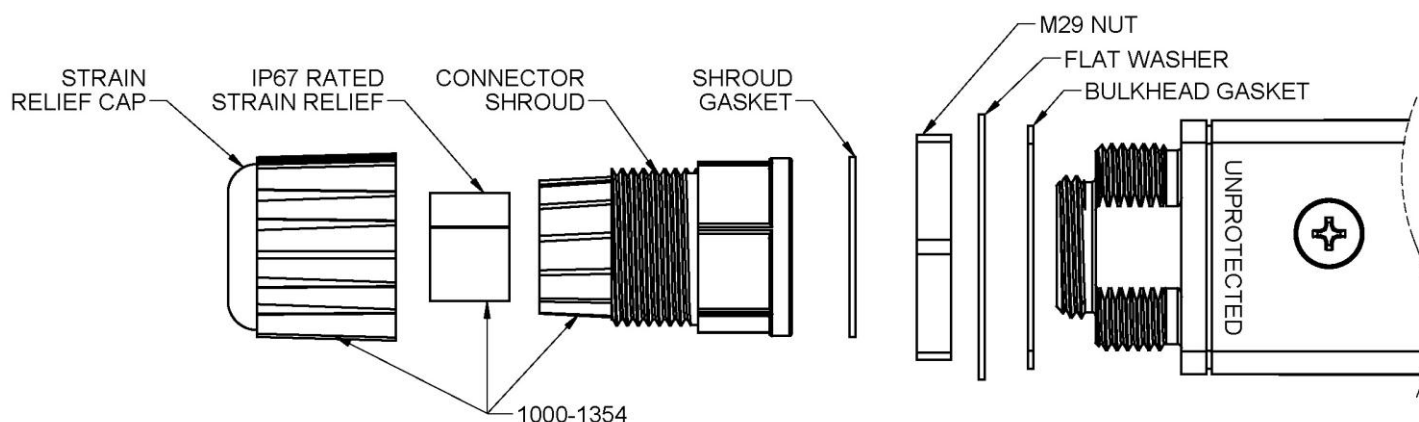

Figure 3. Installation Hardware Accessories (provided with unit)
- 5.3. Slide the Cat5e cable through the strain relief cap first. Then slide through the connector shroud. Install the IP67 rated strain relief over the cable between the cap and connector shroud. Place the shroud gasket on the unit over the M20 x 1.5 threaded portion. Plug the connector into the unit and torque the connector shroud down with 5 to 7 in-lbf to compress the gasket (do not over-tighten the connector shroud on the gasket). Slide the IP67 rated strain relief into the connector shroud (leaving approximately 1mm of the strain relief exposed). Torque the strain relief cap onto the connector shroud with 3 to 5 in-lbf. (see Figure 3).
- 5.4. Install the Cat5e suitable cable to the “protected” side of the Thunderbolt to the sensitive equipment on the “indoor” side. If it is desired to achieve IP67 protection on the “protected” side, an additional molded RJ-45 connector shroud with cable gland can be acquired from Transtector Systems, Inc.; p/n 1000-1354. (see Figure 3).